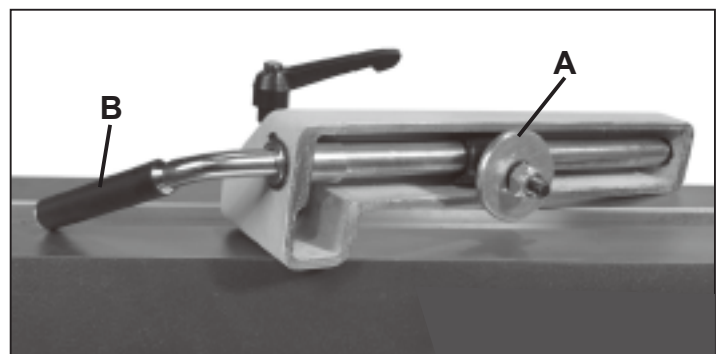

Fig.6.2
If adjustments are needed, the clamping pressure can be changed by turning the large Hex Nuts (#16C & 11D) that are located under the lathe bed and below the assemblies. This is done with a 16mm (5/8") or adjustable wrench (not included). FIG. 6.2 shows the tool rest removed from the lathe bed to view the locking mechanism and Hex Nut (A).
1. Loosen the Locking Handle (B) so that there is no clamping pressure being exerted on the lathe assembly.